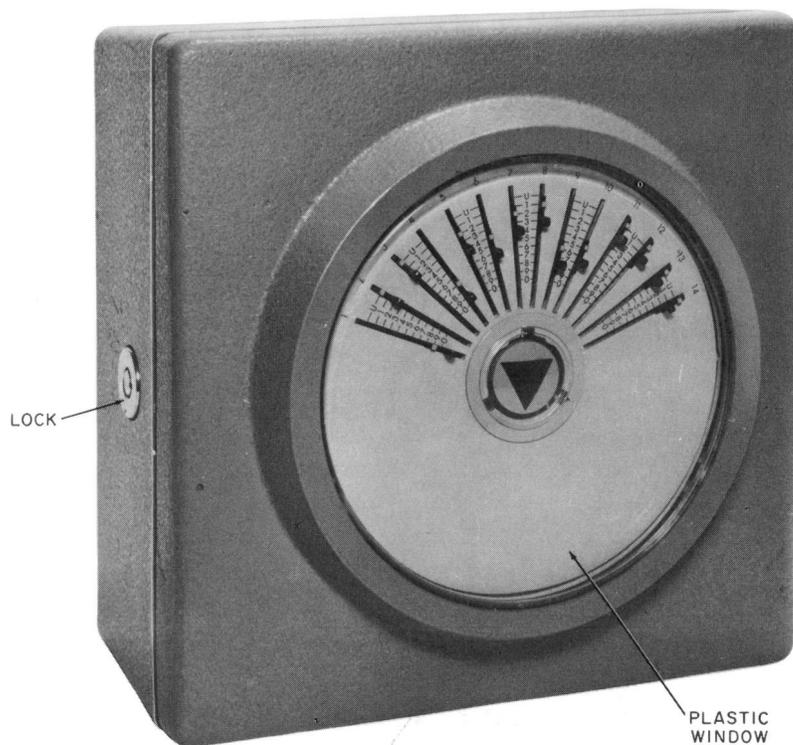

Fig. 1 — 1A Alarm Reporting Telephone Set (ART)
- 2.01** The ART, Fig. 1 and 2, is contained in a gray aluminum housing 8.4 inches square by 5.2 inches deep. The unit weighs approximately 9 pounds. The hinged front is equipped with security lock and a clear plastic window.